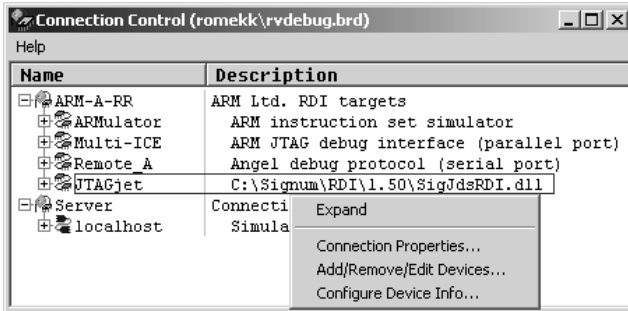

FIGURE 9 The augmented target list.
6. In the Connection Control dialog box, right-click the new connection entry and select Configure Device Info from the popup menu (Figure 9).